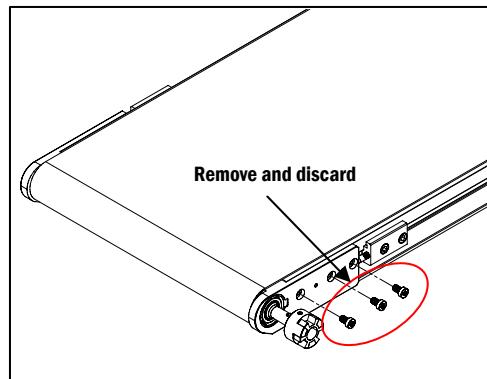

Figure 1
- Remove and discard the three M6 Low Head Cap Screws with an Allen Wrench from the drive side Bearing Block (Figure 1).